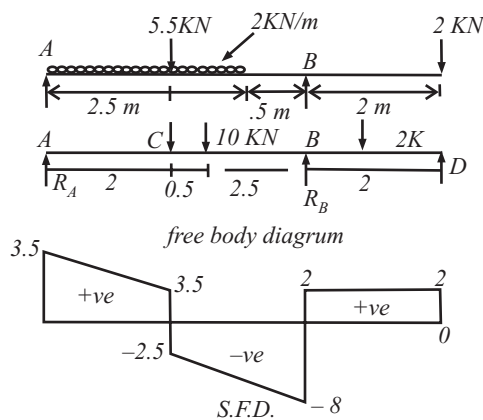

Fig 12.23
Q.18: Draw the SF diagram for the simply supported beam loaded as shown in fig 12.23.